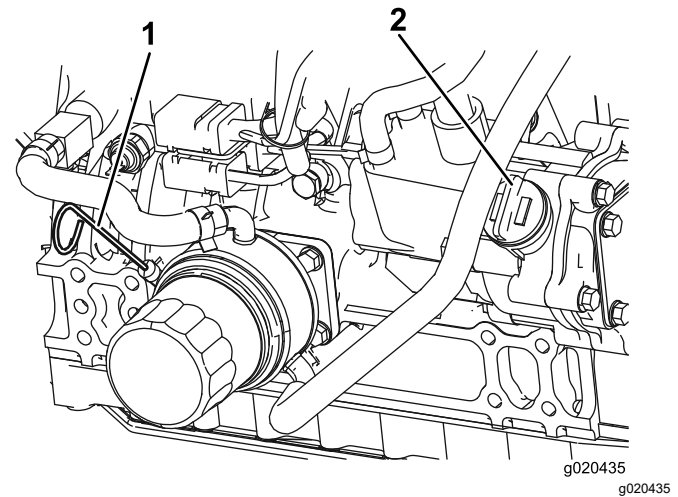

Figure 76
The oil level should be in the safe range (Figure 76).
- If the oil is below the safe range, remove the fill cap (Figure 76) and add oil until the level reaches the Full mark.